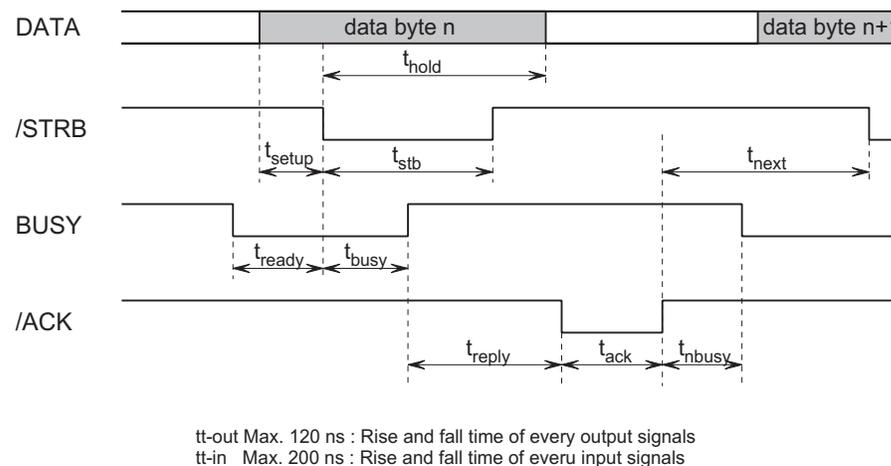

Figure 1-9. Timing Chart
3. Refer to figure1-9 for transmission of timing of each signals.